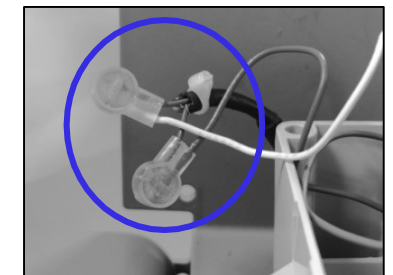

Figure 26: Pulse Output 2 wired to the ERT
2. After the ERT is properly wired, install the supplied cable tie approximately 1/8 inch from the end of the shrink tubing as shown in Figure 26.